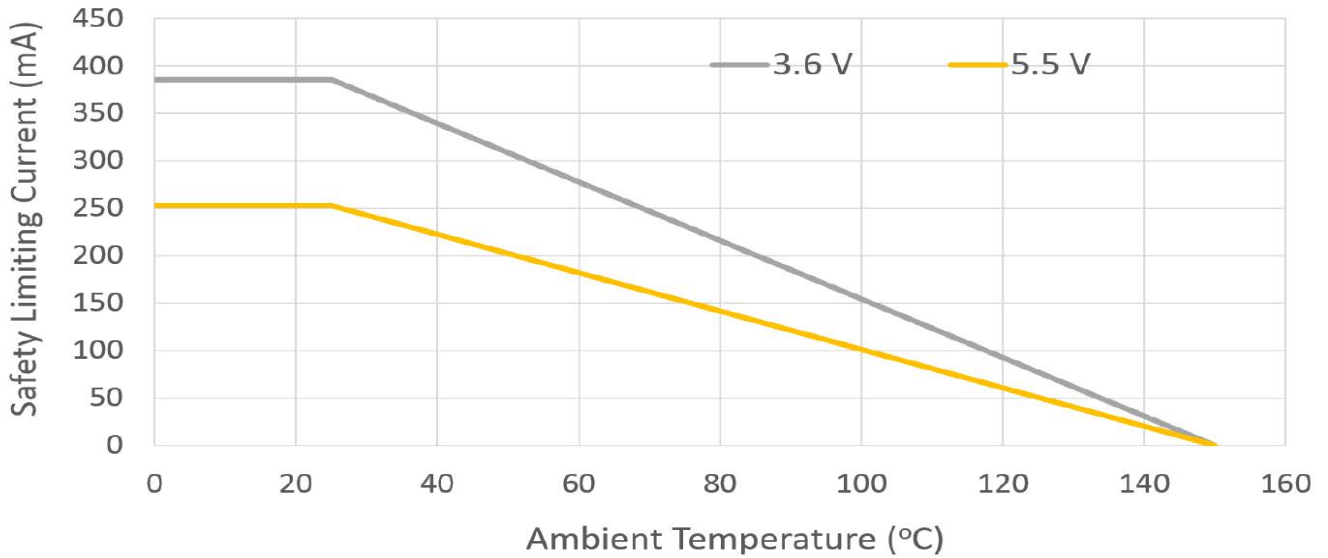
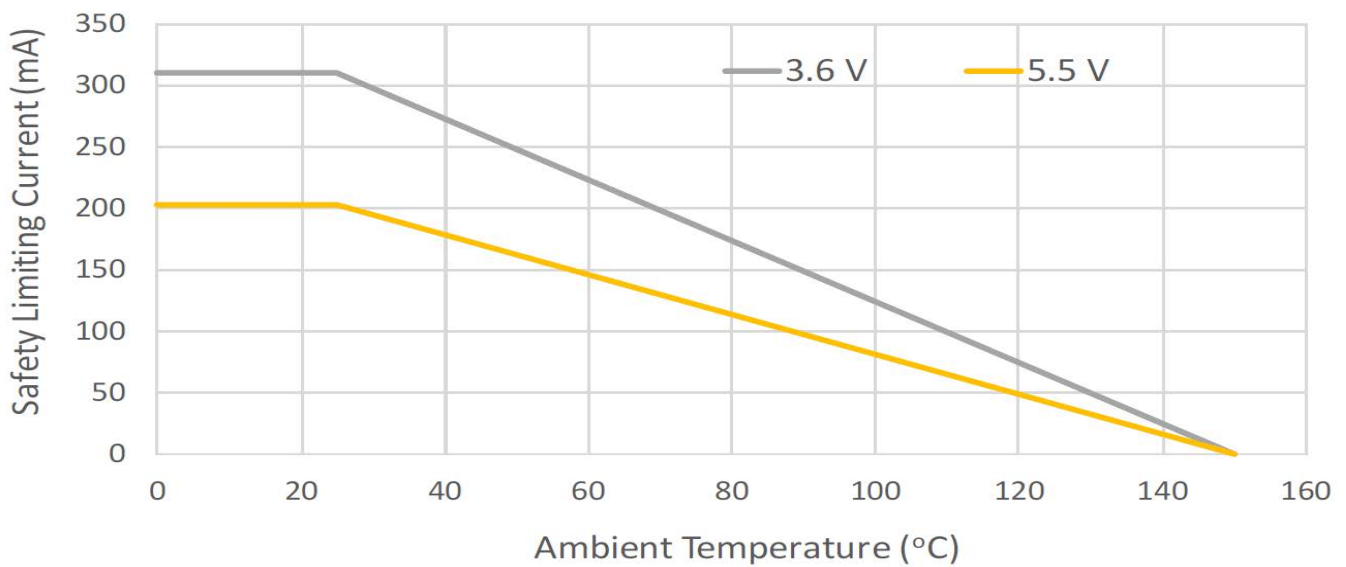

Figure 34. WB Stretched SOIC-8 Thermal Derating Curve (Dependence of Safety Limiting Current)
Figure 35. NB SOIC-8 Thermal Derating Curve (Dependence of Safety Limiting Current)
1. Maximum value allowed in the event of a failure. Refer to the derating curves Figure 34, “WB Stretched SOIC-8 Thermal Derating Curve (Dependence of Safety Limiting Current),” on page 16 and Figure 35, “NB SOIC-8 Thermal Derating Curve (Dependence of Safety Limiting Current),” on page 16.